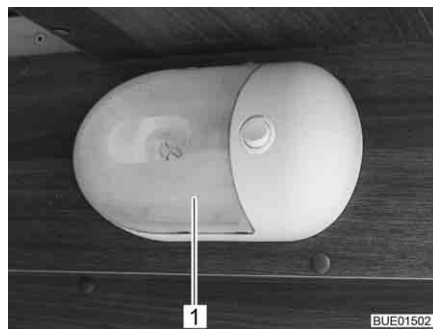

Fig. 247 Surface mounted light
- Carefully push the transparent cover (Fig. 247,1) together from both sides, pull it lightly from the switch and pull it off forwards.